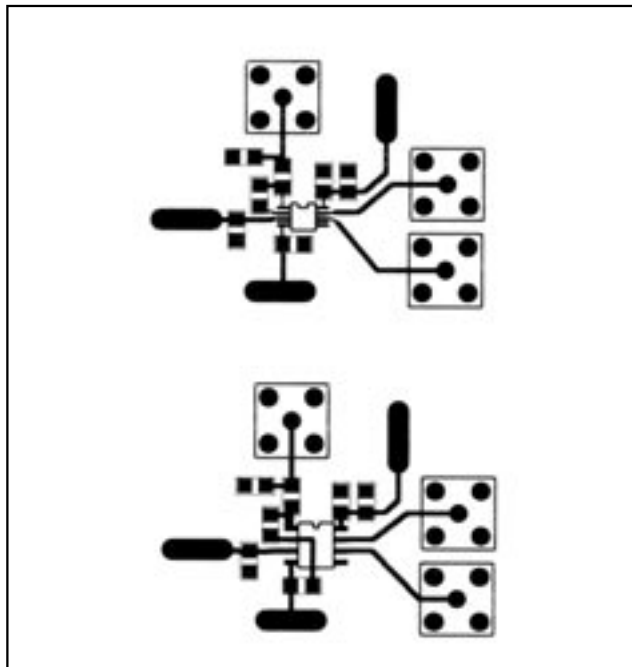

Figure 5. MAX961 PC Board Layout
- 5) Refer to Figure 5 for a recommended circuit layout.